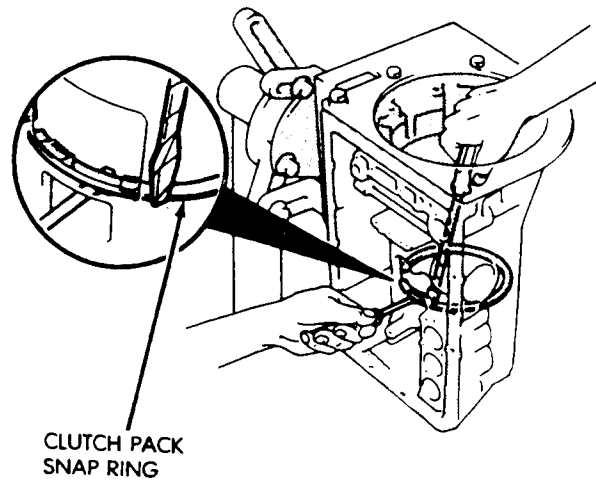

Fig. 40 Removing Second Brake Clutch Pack Snap Ring
(49) Remove second brake clutch pack snap ring (Fig. 40).